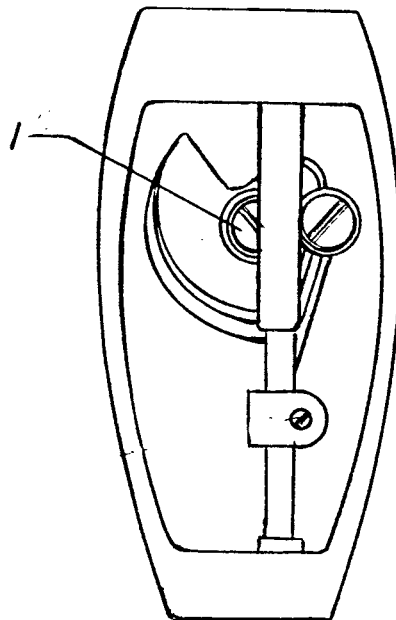

FIG.13
The oil supply to the thread take-up lever for its lubrication can be adjusted by turning the oil regulating value (1) shown on (Fig. 13). When turning this value clockwise the flow of oil decreases, while turning it counter clockwise the flow of oil is increased. Please note that the flow of oil is already adjusted by the factory at the time the machine is assembled.